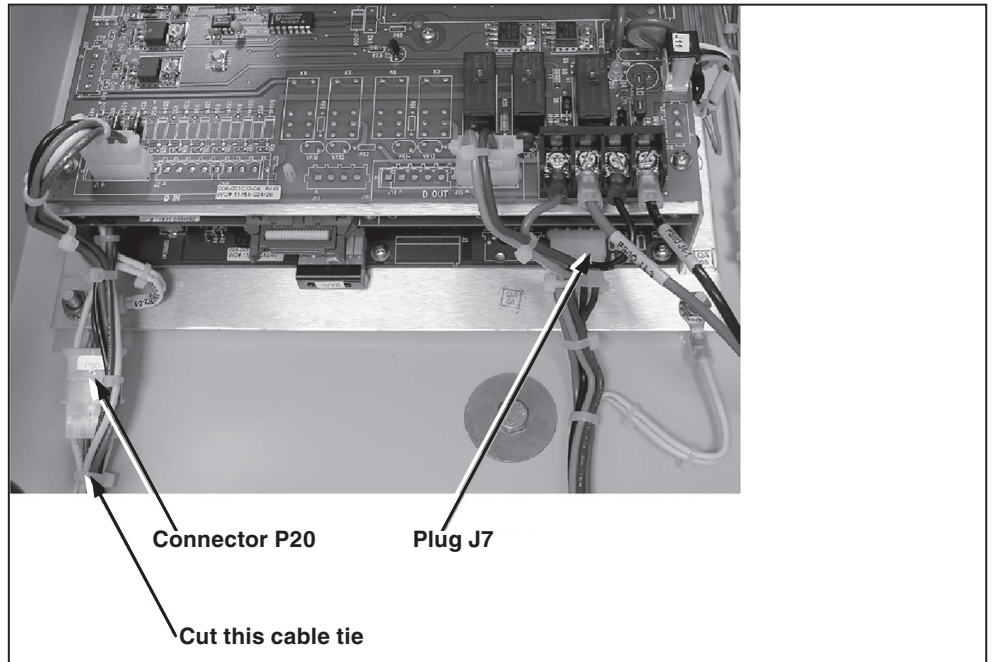

Figure 1. The current and voltage phase change harnesses are installed at these locations for a 6801 control.
- STEP 3.** If necessary, cut the cable tie to facilitate connection of the jumper. See Figure 1 on page 7.
- STEP 4.** Insert the current phase change harness between the current sensor input cable and plug P20. See Figures 1 and 2 on page 7. For the 6802 or 6803 control insert the current phase change harness between the current sensor input cables and plugs P20 and P21. See Figure 3 on page 8. The plugs cannot be installed incorrectly.
- STEP 5.** Insert the voltage phase change harness between the voltage sensor input cable and jack J7 on the circuit board. See Figures 1 and 2 on page 7. For the 6802 or 6803 control, insert the voltage phase change harness between the voltage sensor input cables and jacks J4 and J5 on the circuit board. See Figure 3 on page 8. The plugs cannot be installed incorrectly.